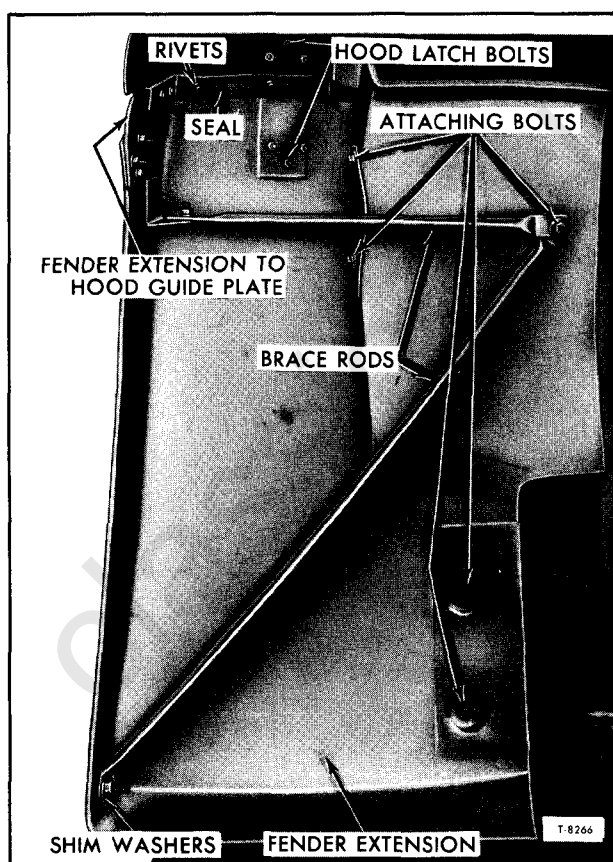

Figure 1—Typical Fender Brace (H and J Models)
2. Referring to figure 1, remove five bolts which attach fender extension to the cab and extension support bracket. Remove the extension assembly.
For proper alignment with hood, add or remove shims as shown in figure 1.